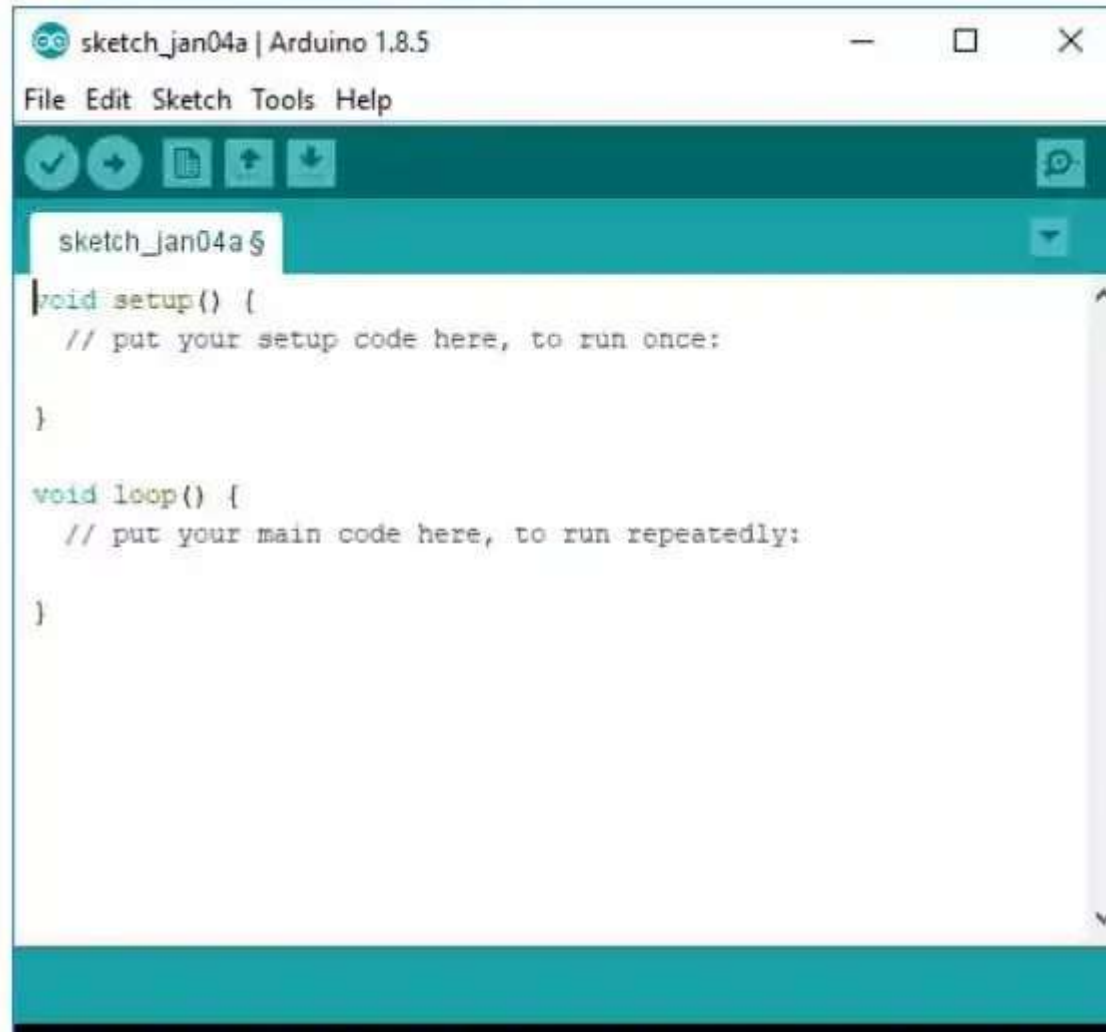

Figure 7.2 : Arduino IDE
- When the Arduino IDE is opened for the first time, a window will appear as shown in the figure 7.2